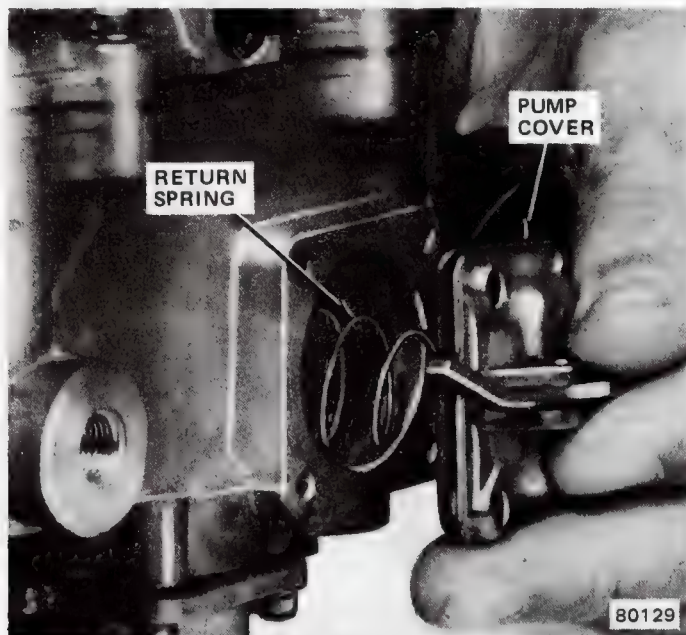

Fig. 1J-103 Removing Accelerator Pump Assembly
(19) Invert main body and remove power valve cover, gasket and screws. Remove power valve (fig. 1J-104). Remove and discard power valve gasket.
(20) Remove limiter caps from idle mixture adjusting screws. Use soldering gun to cut through limiter caps. Remove idle mixture adjusting screws and springs.
(21) Remove solenoid, if equipped.